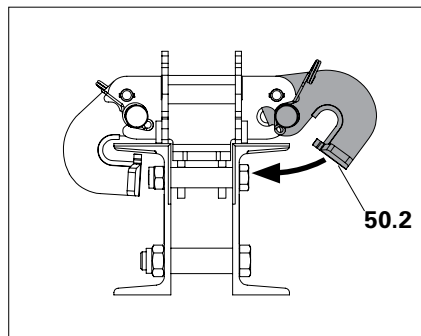

Fig. D5.05
2. Fold the guiding skid (50.2) forwards. (Fig. D5.05 + D5.05a)